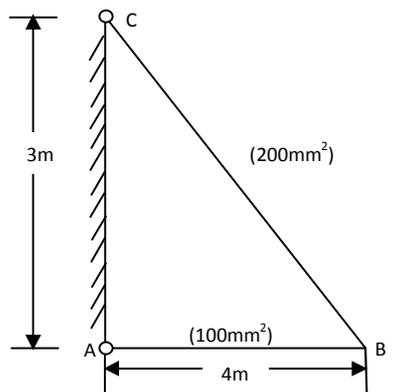

Fig.Q9
9. Using stiffness method, determine forces in the members AB and BC of a pin jointed frame given in Fig. Q9. The cross sections are indicated in the brackets against each member. $E = 2 \times 10^5 \text{ N/mm}^2$ (16 marks)